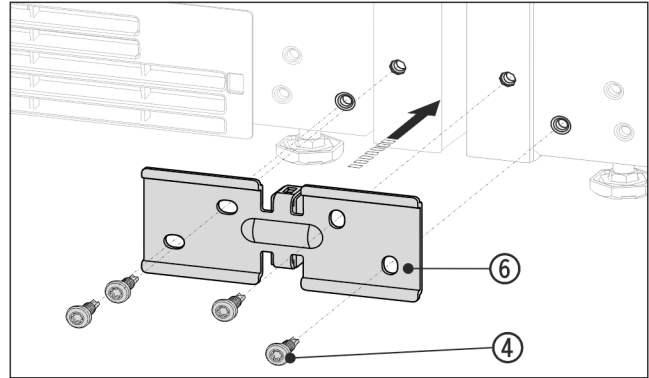

Fig. 16 Example illustration
- ▶ Slide the bracket Fig. 16 (6) on with the spacer between the appliances and screw in loosely with the 4 screws Fig. 16 (4).